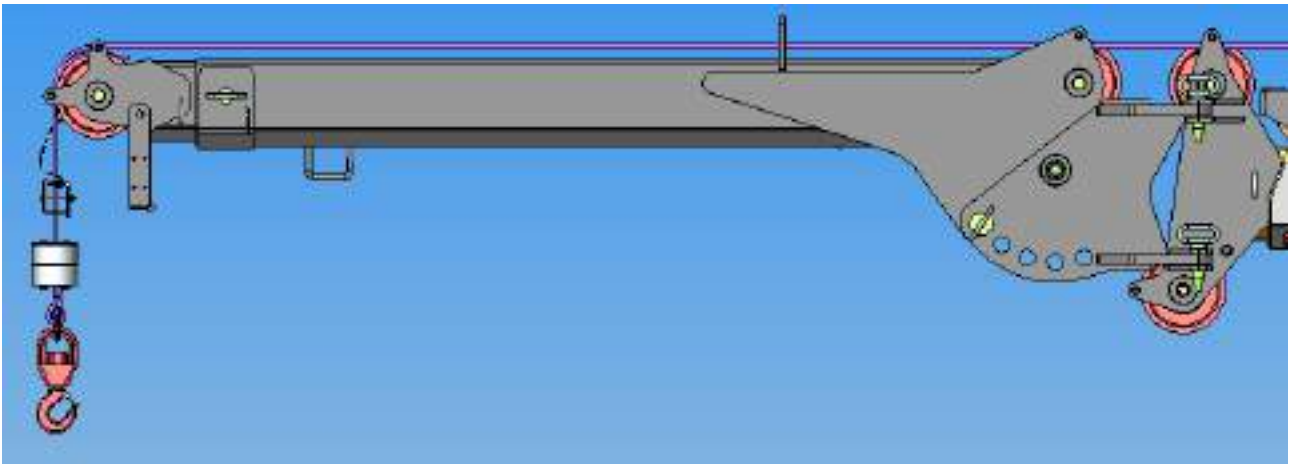

Fig. 2
7. Slip the rope along the upper pulley of the crane fourth extension and the jib rear and front pulleys (fig. 2)